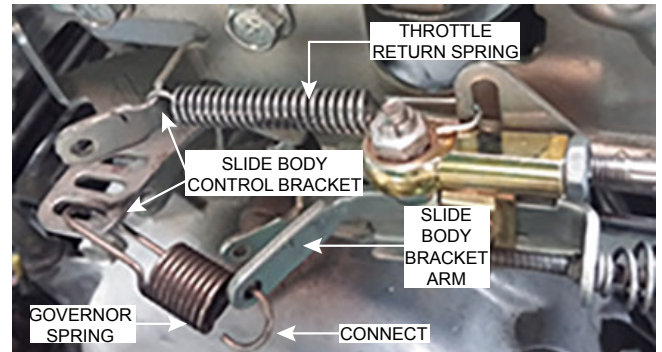

Figure 12. Throttle/Governor Spring Reconnection
- Attach existing governor spring (Figure 12) onto slide body bracket arm.
- Using needle nose pliers, attach the free ends of the governor and throttle return springs to the slide body control bracket as shown in Figure 12.